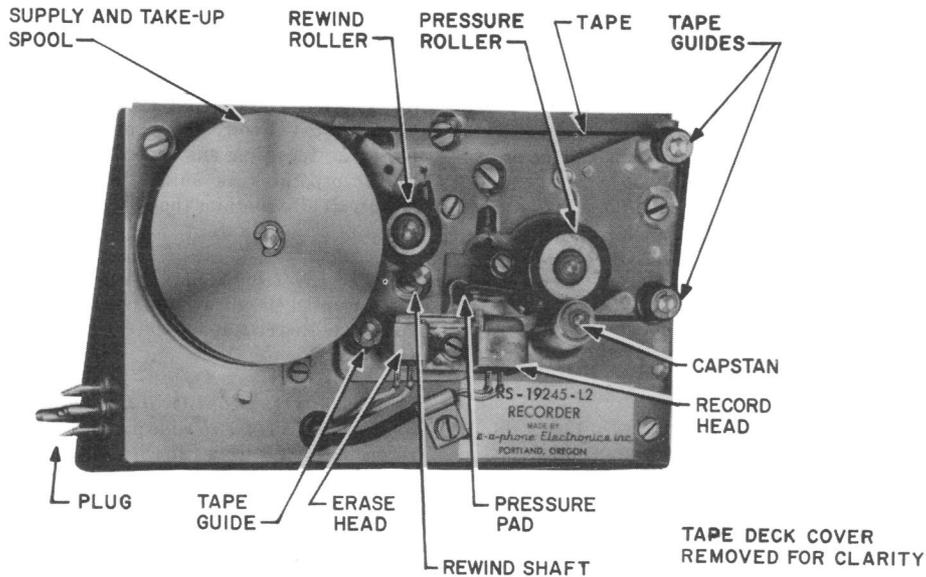

Fig. 4—KS-19245, List 2 Recorder (Reel Side)
3.01 Components of the KS-19245, List 1 (MD) telephone answering set are as follows.
- (a) **The KS-19245, List 2 Recorder** (Fig. 4 and 5) is the announcement recording mechanism. It provides a maximum recording capacity of 3 minutes, and incorporates a variable cycle feature that limits the reproduce cycle to the duration of the recorded announcement only. This recorder is equipped with 1/4-inch wide plastic base magnetic recording tape installed on special reels. The tape and reels form an integral part of the recording mechanism and **cannot** be changed by the customer since replacement of either requires partial disassembly of the mechanism. Facilities are provided for limiting the maximum recording time to 15-second increments (from 15 seconds to 90 seconds) or 30-second increments (from 90 seconds to 180 seconds). This is done by adjusting the variable limit switch assembly. The adjustment may only be made by the installer.